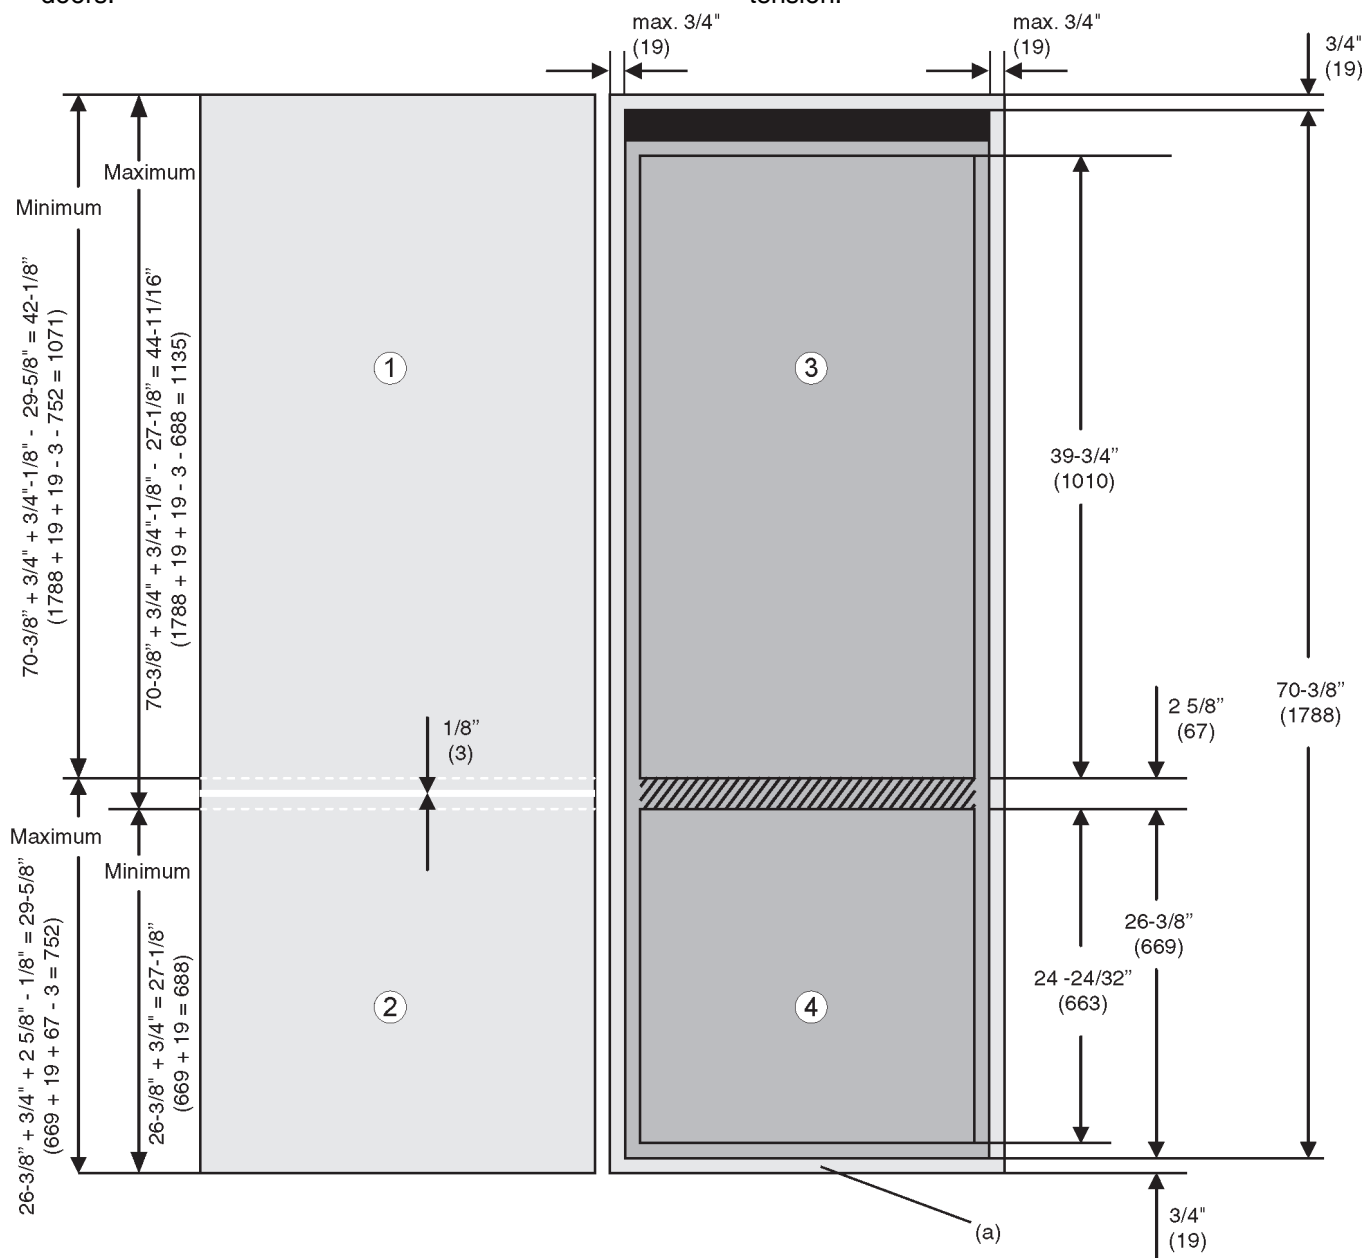

Fig. 4
- In order to cover the front of the floor plate Fig. 4 (a): extend the plate height to 26-3/8 in. + 3/4 in. = 27-1/8 in. (669 mm + 19 mm = 688 mm).
If no cabinet doors have yet been fitted, the gap between the freezer section door Fig. 4 (4) and the fridge section door Fig. 4 (3) is 2-5/8 in. (67 mm). After the cabinet doors have been fitted the gap between the two doors Fig. 4 (1,2) is about 1/8 in. (3 mm) and must be inside the hatched area.